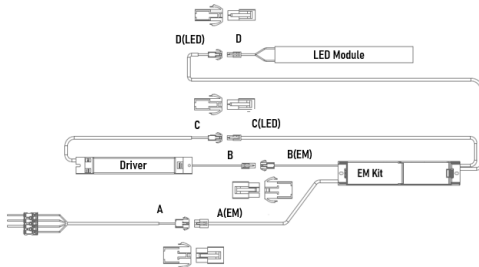

Fig. 3
- Set the desired functionality of the modular emergency kit by adjusting the dip switch located on the unit's enclosure. The switch is labelled to indicate the following modes: Self-test mode (1) or Standard/Manual mode (ON)
- See Fig. 3 for wiring diagram